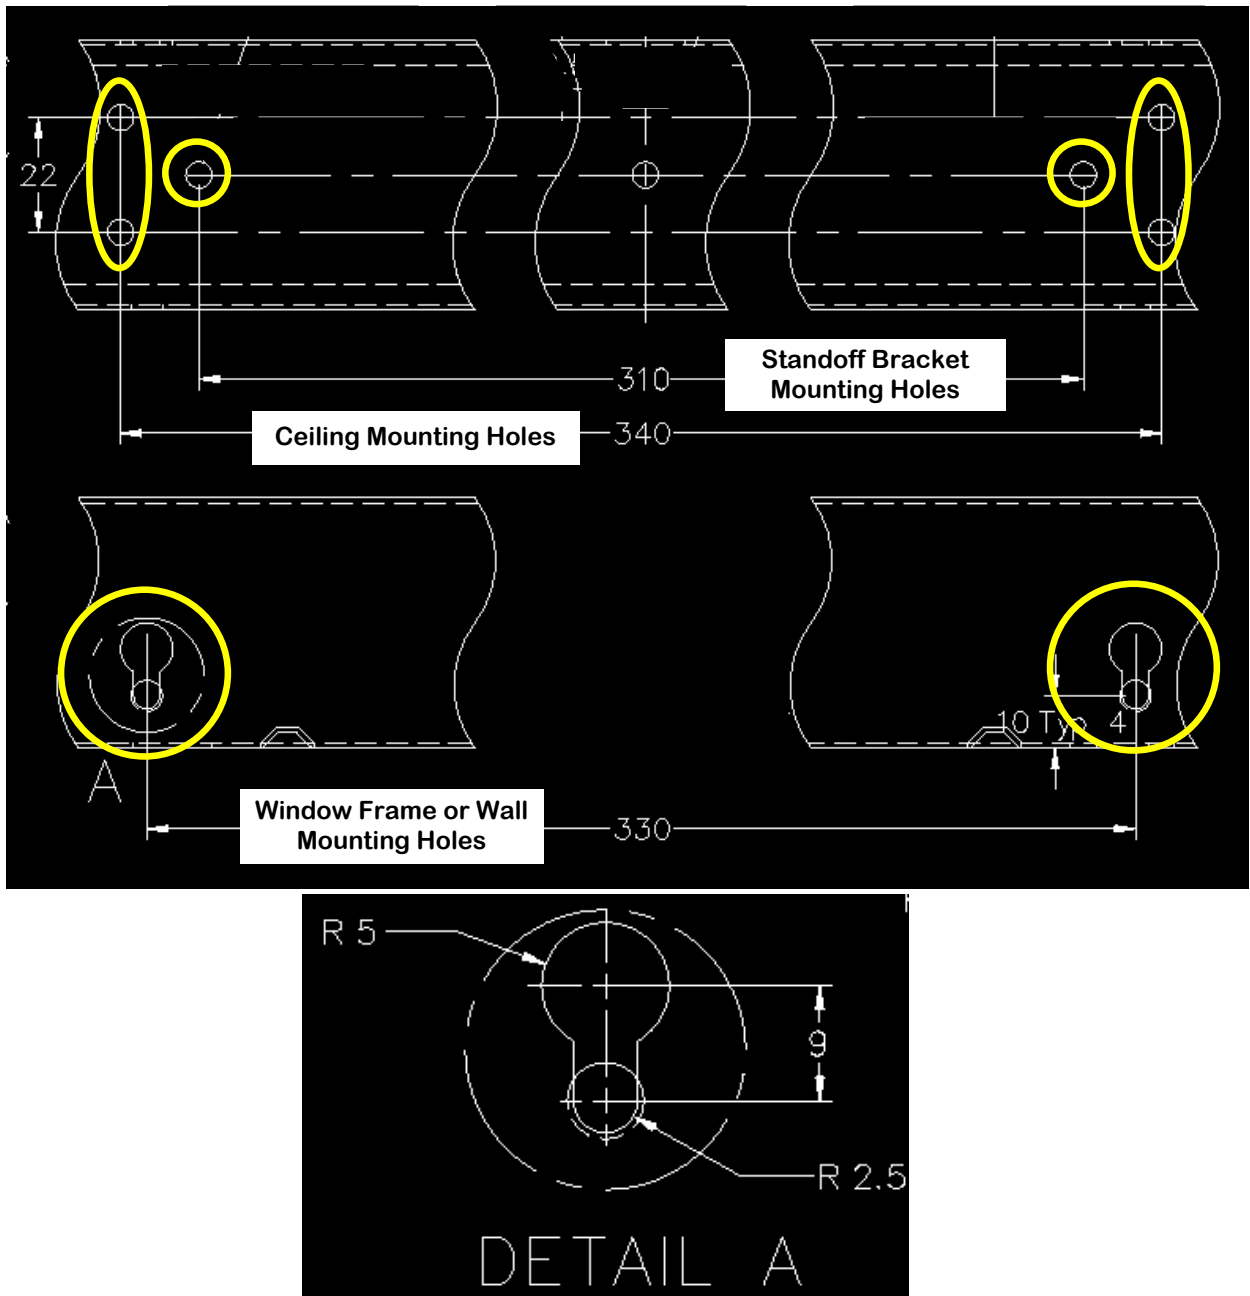

Figure 3: Camera Bar Mounting Hole Diagram
4. Use Figure 3 below to mark the screw holes